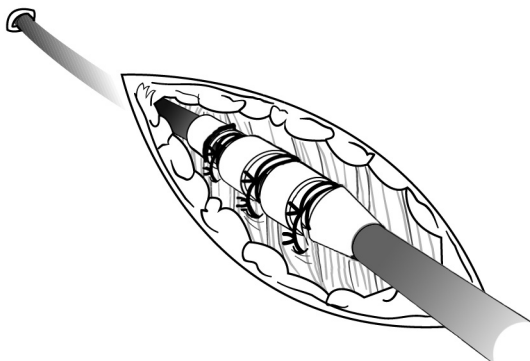

Figure 8. Example of suture sleeve, percutaneous implant technique
1. Peel back the introducer sheath and slide the suture sleeve deep into the tissue (Figure 8 Example of suture sleeve, percutaneous implant technique on page 19).